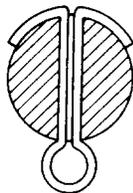

Fig. 2 - Method of Clinching Cotter Pin to Clear Wiring
3.04 Key Frame and Spring Combination: To replace the key frame and spring combination of the No. 580A key, remove the No. 348A plug from the connector. Loosen the two cowl fasteners located at the top and bottom of the cord unit by turning them toward the left (counterclockwise) with the 4-inch regular screwdriver and remove the cord unit. Remove the cover. Tag and unsolder the wires from the springs of the key spring combination. Remove the cotter pin from the coupling and shaft with the 6-1/2-inch P-long-nose pliers. Remove the two screws that mount the key frame on the mounting plate with the No. 564A offset screwdriver. Mount the new key frame and spring combination, tighten the mounting screws securely, resolder the leads, insert and clinch the new cotter pin as shown in Fig. 2, and remount the cord unit.
3.05 Knob: To replace the knob, remove the cord unit as covered in 3.04. Loosen the two setscrews that hold the plunger block of the No. 581A key to the shaft with the R-2959 Allen socket screw wrench. Remove the cotter pin from the coupling and shaft with the 6-1/2-inch P-long-nose pliers. While supporting the plunger block, remove the knob and its associated shaft. If the keyshelf bushing is worn, replace the bushing as covered in 3.09. Slide the shaft of the new knob through the keyshelf bushing and through the hole in the plunger block. During this operation, the finger portion of the knob should be in the upward position and the spring combination of the No. 580A key should be in the unoperated position but with the shaft pulled out. Insert a new cotter pin as shown in Fig. 2. The two setscrews in the plunger block should then be tightened on the shaft with the Allen socket screw wrench so that the position of the plunger block is in accordance with the requirements for plunger block position for the No. 581A key as outlined in Section 032-726-701. A slight burr on the shaft at a previous position of the setscrew may prevent the plunger block from moving freely on the shaft or cause it to shift when the setscrew is tightened. In this case, remove the burr by scraping with the blade edge of a screwdriver. Remount the cord unit.